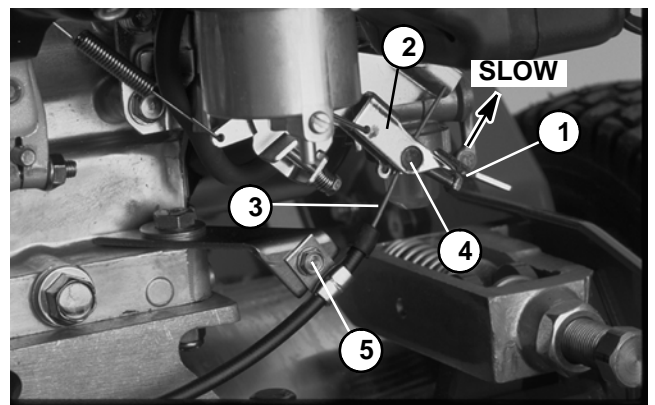

Figure 14
A. Loosen screw on governor lever enough to slide the throttle cable out of the nut (Fig. 14).
6. Reconnect and adjust throttle cable (Fig. 14).